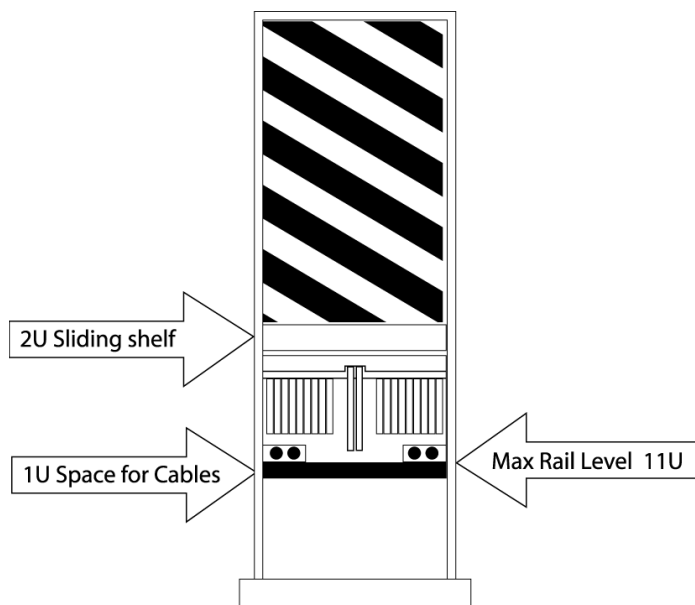

Figure 17: Rail tray mounting location requirement
2. Determine the mounting location for the rail tray, as shown in Figure 17.